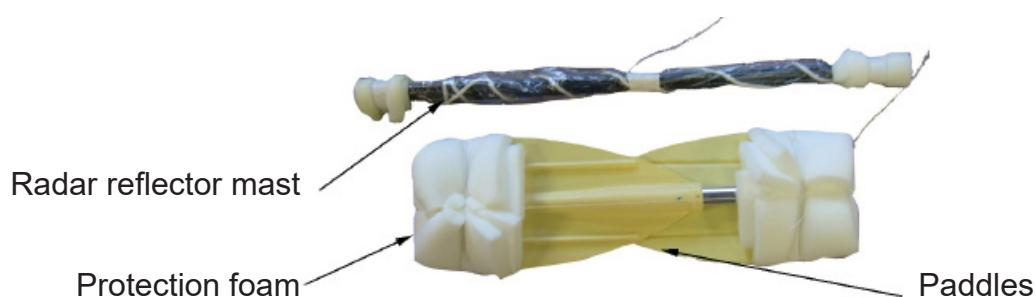

FIGURE A7-18
2.35 Tie the paddles opposite to each other. Refer to FIGURE A7-18. Put protective foam over the ends of the paddles and radar reflector mast (if applicable).